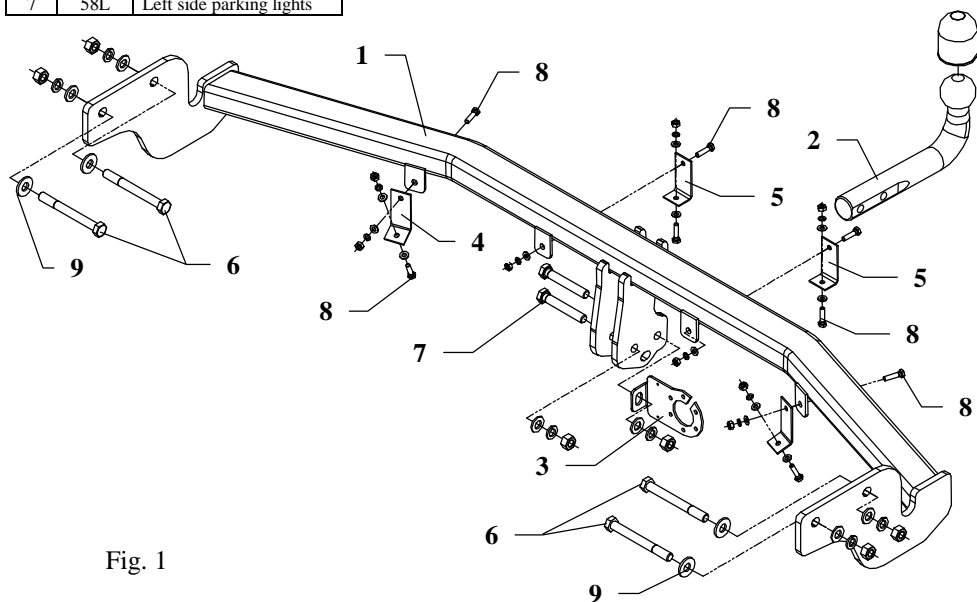
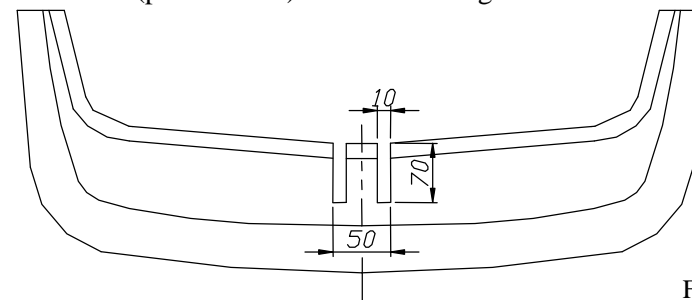

Fig. 1
Fig. 2
4. Apply the main bar of the towing hitch (pos. 1) to chassis members in that way so holes in the main bar be covered with holes in the frame, then fix using bolts M12x110mm (pos. 6). Use large washers (pos. 9).
6. Cut out fragment of the bumper (as shown in the fig. 2), then install the bumper. Use handles (pos. 4 and 5) from the towing hitch accessories (see fig. 1).